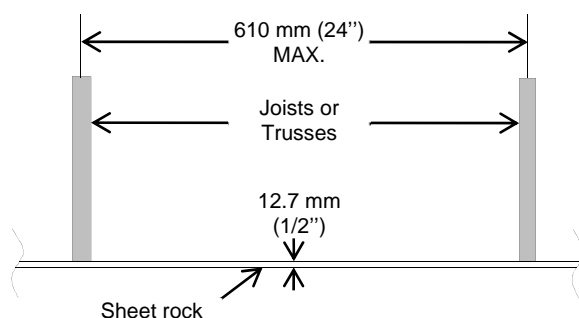

Figure 1
- Must have a maximum of 24" / 610 mm between the trusses or joists in the ceiling (see Figure 1).